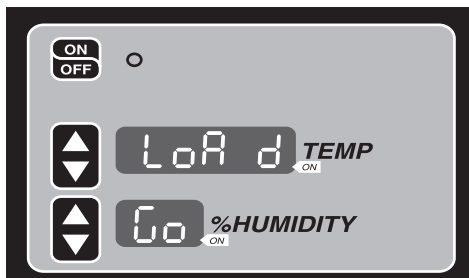

Fig. 25
6. Press either TEMP UP or TEMP DOWN arrow until "LoAd" is displayed in the TEMP display (Fig. 25).